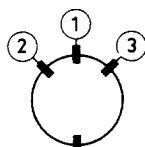

Fig. 4c
5. Now place wedge ④ as shown in Fig. 4c or 5c and press on the adhesive side firmly.